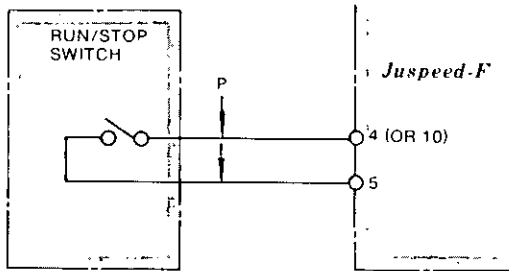

Fig. 4 Connections of RUN/STOP Switch
(1) SIGNAL LEADS
Use the twisted lead for connections to signal terminals 4 to 10. The signal line must be separated from main circuit terminals T1 (U), T2 (V), T3 (W), L1 (R), L2 (S), and L3 (T) and large-current electrical circuit (230 V, 120 V relay sequence circuit). See Fig. 4. Lead length should be 66 feet (20 meters) or less.